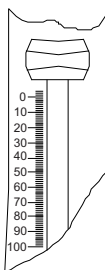

Fig. 4 Top position of locking/filling lever
- Move the locking/filling lever upwards until its upper stop (see Fig. 4).